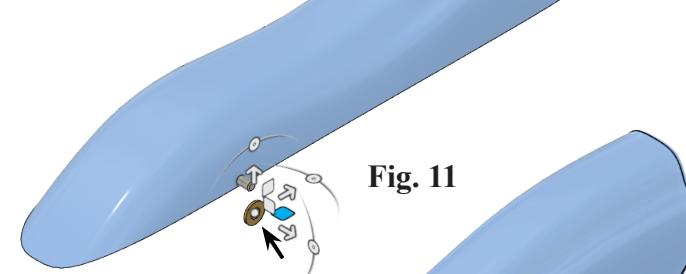

Fig. 11
Step 4. Drag **Washer Square XY Manipulator**  over to Front Axle, Fig. 11.